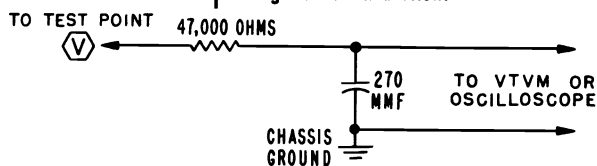

Figure 9. Decoupling Filter.
- Connect VTVM high side to test point "V" through a decoupling filter, see figures 9, 12 and 13.